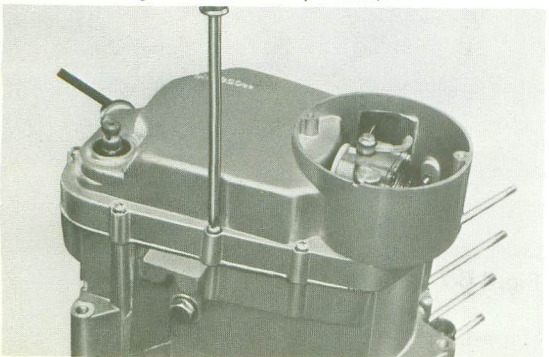

Fig. 4-7-2
- b. Remove the pan-head screws from the crankcase cover (R), and take off the cover. (Fig. 4-7-2 and 3)